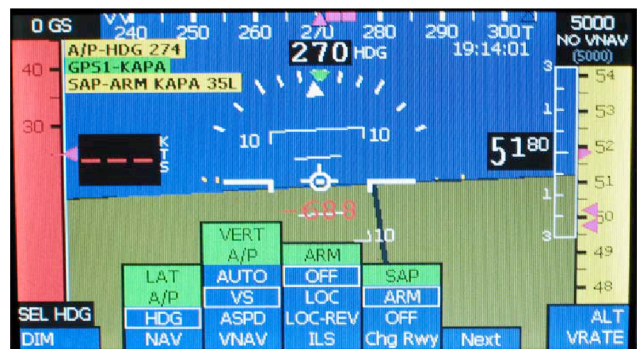

Figure 3.1 Menu — Output to Autopilot.
- 8 [CHG RWY] After selecting a runway, it may be changed by using the [SAP] button again as shown in Figure 3.1